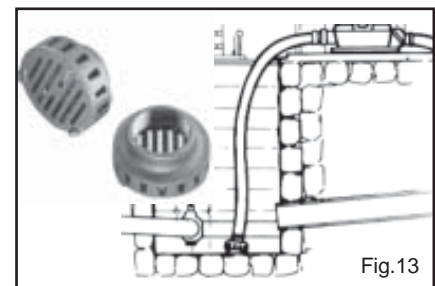

Fig.13
- **USING A STRAINER ON THE INLET** - If the solids are too large they will block the inlet or get stuck in the suction line. The end a suction hose can become attached to a flat surface cutting off all flow. Using an Edson strainer will prevent these conditions. Order an Edson Shattedproof Bronze Strainer 111BR - 200 or 111BR - 150 See Fig.13